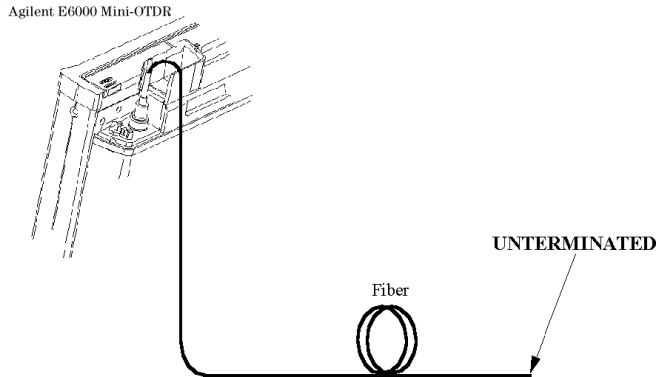

Figure 84 Distance Accuracy Test Setup
- Connect equipment 1** Connect the equipment as shown in Figure 84. If you are using an Agilent Recirculating Delay Line, connect port 2 to the OTDR, and leave port 1 open.